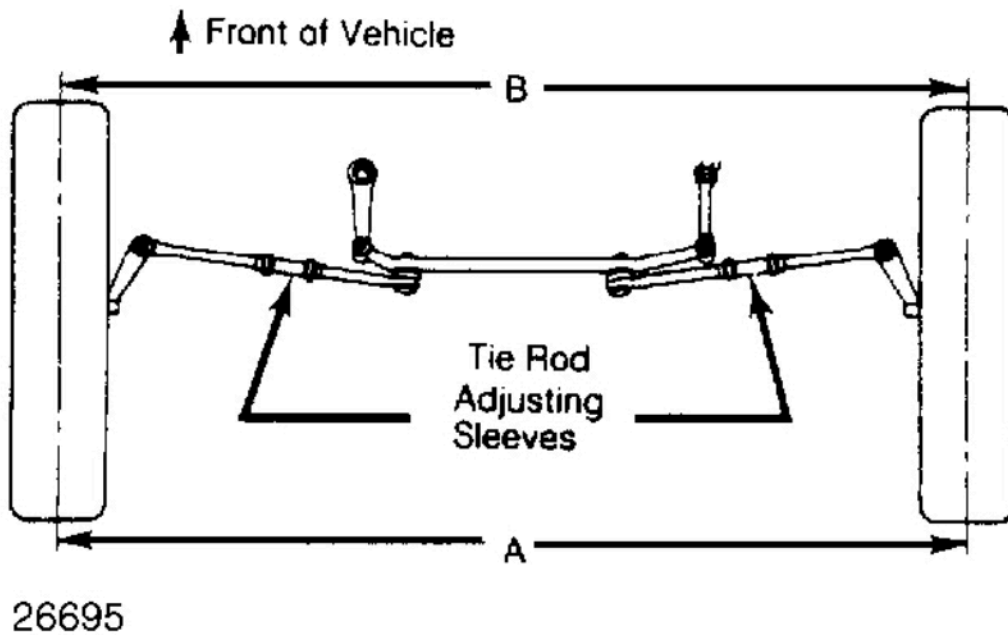
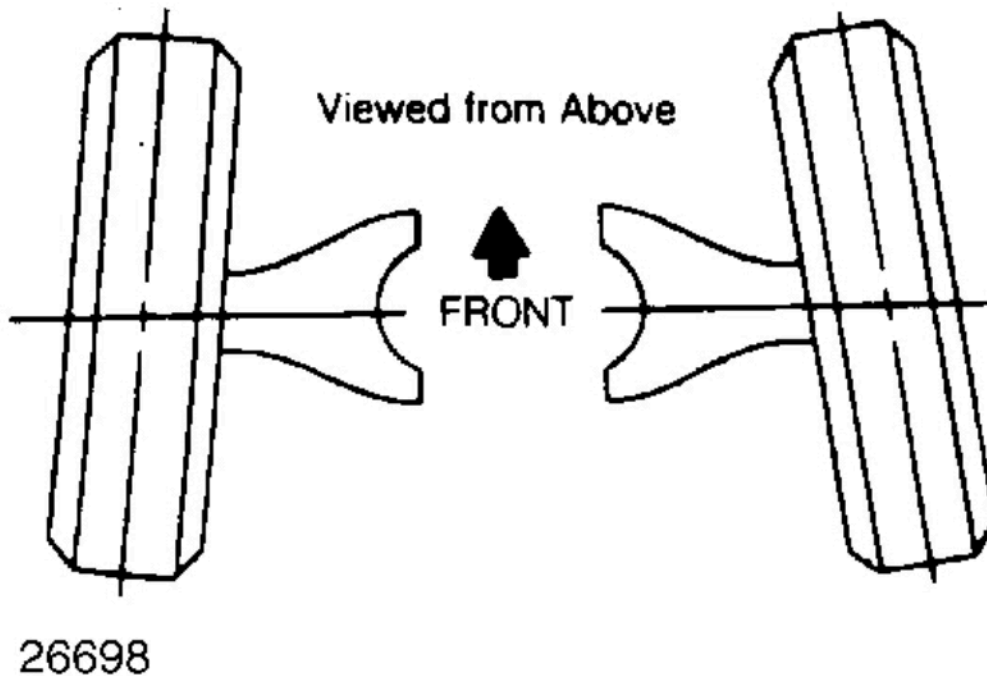

Fig. 2: Adjusting Tie Rod Sleeves (Top View)
Fig. 5: Wheel Toe-In (Dimension A Less Dimension B)
- Steering wheel must be centered with wheels in straight ahead position. If required, shorten one tie rod adjusting sleeve and lengthen opposite sleeve (equal amount of turns). See **Fig. 2**.
- 1) Measure toe-in with front wheels in straight ahead position and steering wheel centered. To adjust toe-in, loosen clamps and turn adjusting sleeve or adjustable end on right and left tie rods. See **Fig. 2** and **Fig. 5**.